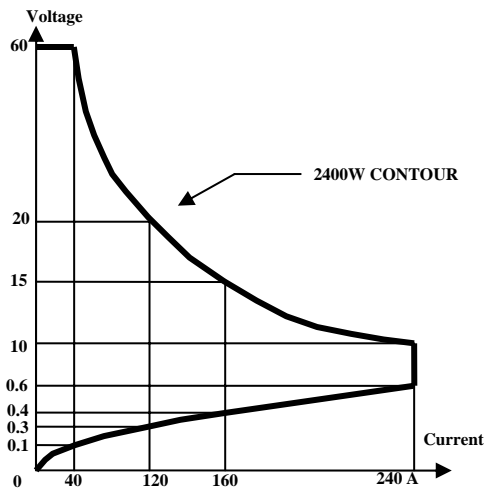

Fig 1-1.1 33501 0-60V / 0-240A 2400W Power Contour
The 33501 Series Electronic Load is designed to test, evaluation and burn-in of DC power supplies and batteries. The 335011 Series electronic load can be operated for manual and GPIB operation. The power contour of 33501 1800 Watts Electronic Load is shown in Fig 1-1.1~1-1.5, it has an input from 0-360A, and 0 -60V current and voltage operating range respectively. The power contour of 33501 series. The prodigit 33501 Series high power electronic Load can be controlled locally at the front panel or remotely via computer over the GPIB/RS-232C. Current (CC) mode, Constant Resistance (CR) mode, and Constant Voltage (CV) mode. and Constant Power (CP) mode. The wide range dynamic load with independent rise and fall current slew rate and analog programming input with arbitrary wave-form input is available in Constant Current mode.